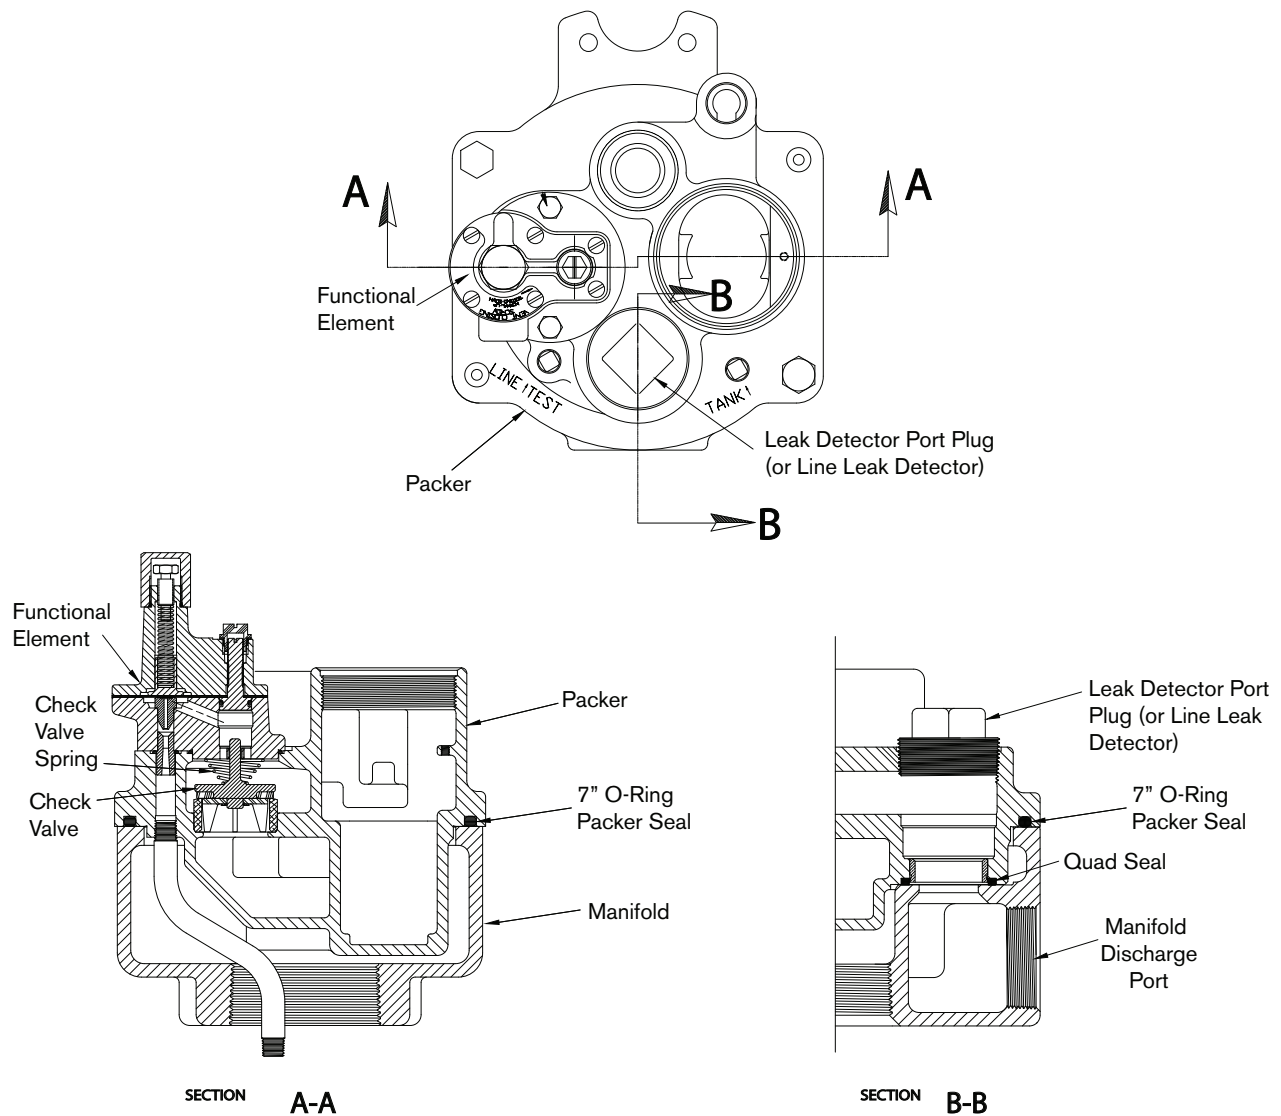

Figure 33. Locating 7" Packer O-Ring And Quad Seal
9. Once the pump is lifted off of the manifold, remove the old quad seal from the base of the packer (under the line leak port (see Figure 33).
12. Lubricate the 7" packer o-ring with petroleum jelly and install it in the groove in the packer (see Figure 33).